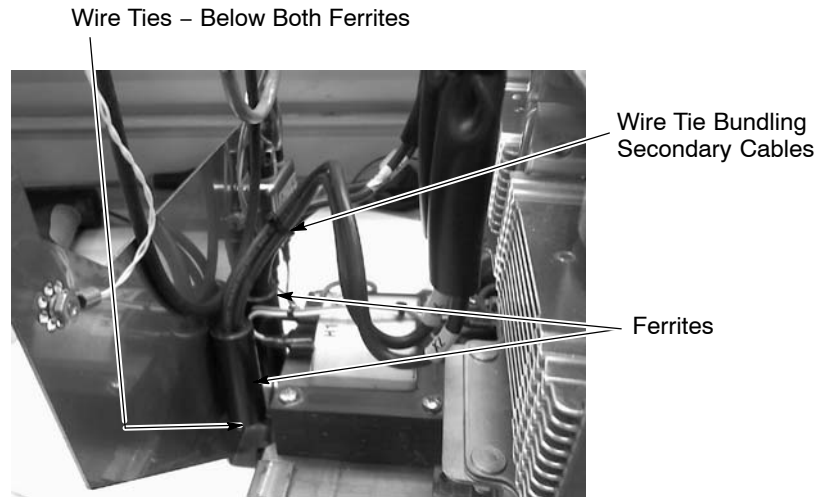

Figure 6 Installing Wire Ties on Secondary Cables
- See Figure 6. Arrange the secondary cable ferrites of both transformers as shown. Install wire ties below the ferrites to prevent them from sliding down the secondary cables, then install another wire tie joining both pairs of secondary cables approximately 2 inches (51mm) above the ferrites.